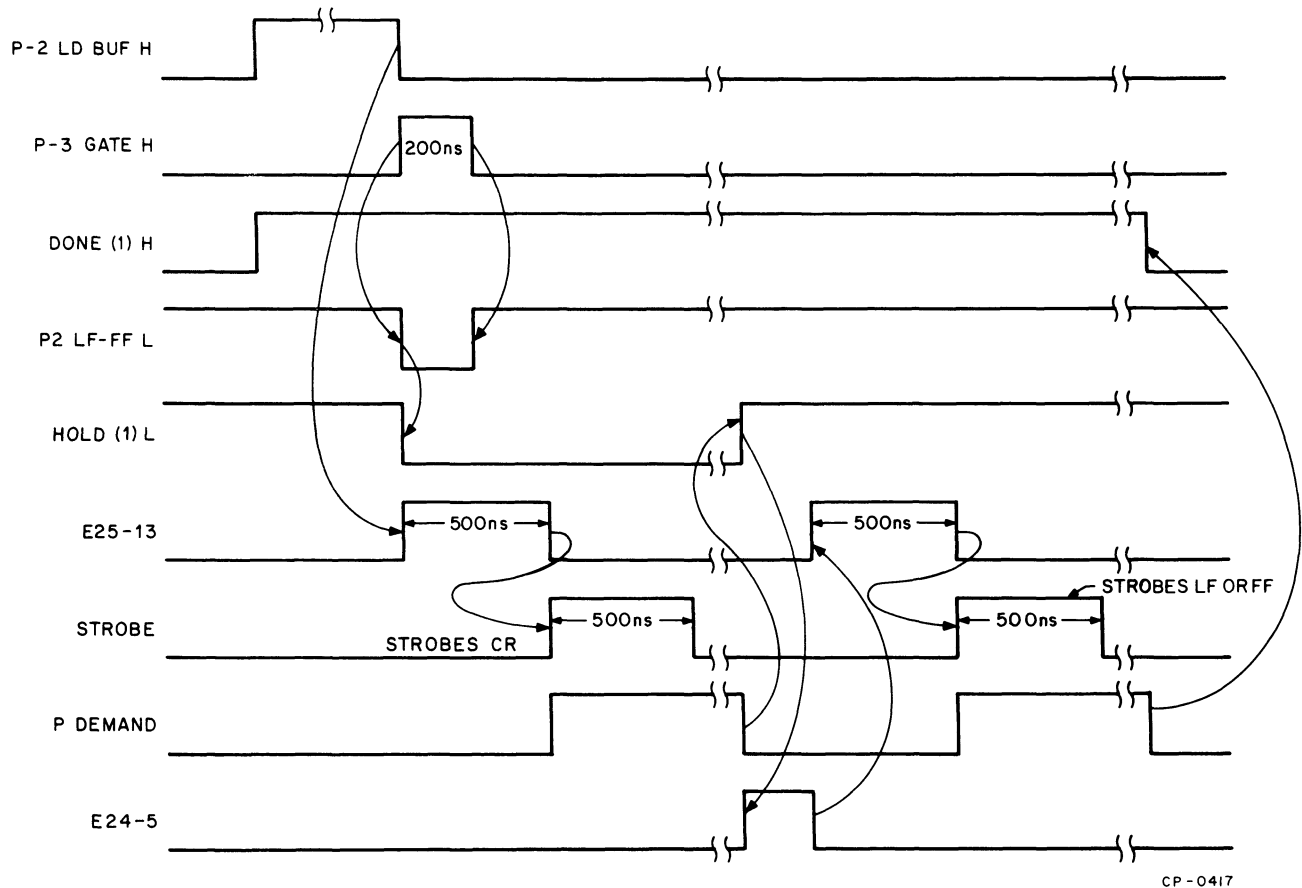

Figure 4-7 FF and LF Timing Diagrams
If, when P-3 GATE H is asserted, P-2 LF/FF is generated by the data register logic indicating that an LF or FF is to be output to the LV01, the Hold flip-flop is direct set (Figure 4-7). This forces the lower three data bits (P DATA 1 through P DATA 3) to an octal 05, converting the LF (012) or FF (014) code to a CR (015) command at the LV11 output lines. The reset side of the Hold flip-flop is connected to the data input of the Done flip-flop. Therefore, when the converted CR is loaded into the LV01 by Strobe, P DEMAND does not set Done, but clears the Hold flip-flop. The clearing of the Hold flip-flop fires a 200 ns one-shot (pin 13 of E25). The sequence then proceeds the same as in a normal character transfer. The 74123 one-shot (pin 4 of E24) is fired to generate Strobe which loads the LF or FF character, still in the LVDB, into the LV01 buffer. With Hold now clear, P DEMAND will set the Done flip-flop when the LF or FF operation has been completed.